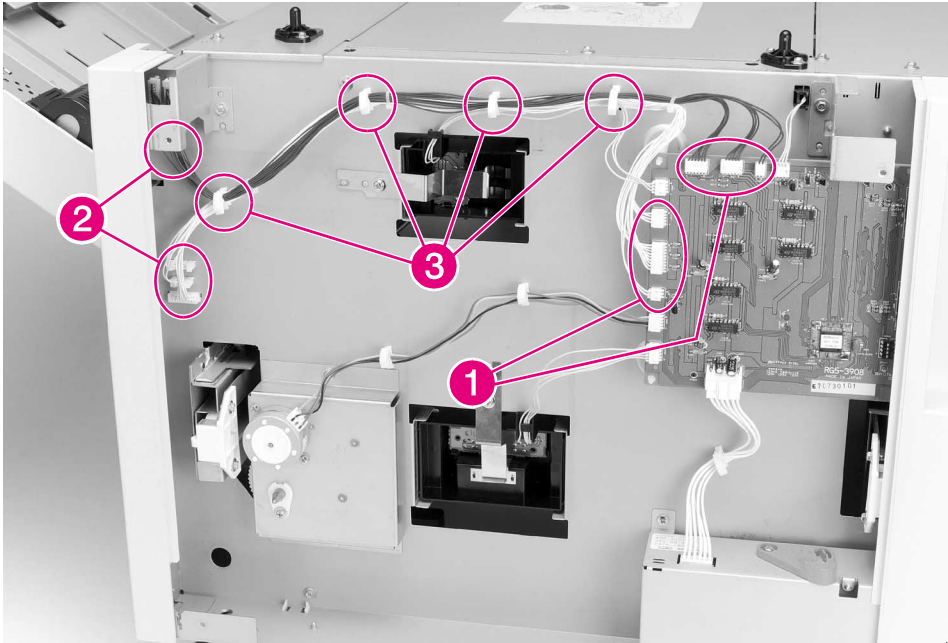

Figure 6-70 2000-sheet Input Tray Main Cable Harness
- 2 Locate and disconnect the 6 cable connectors that connect the Main Cable Harness to the Controller PCA on the 2000-sheet Input Tray (figure 6-70, callout 1).